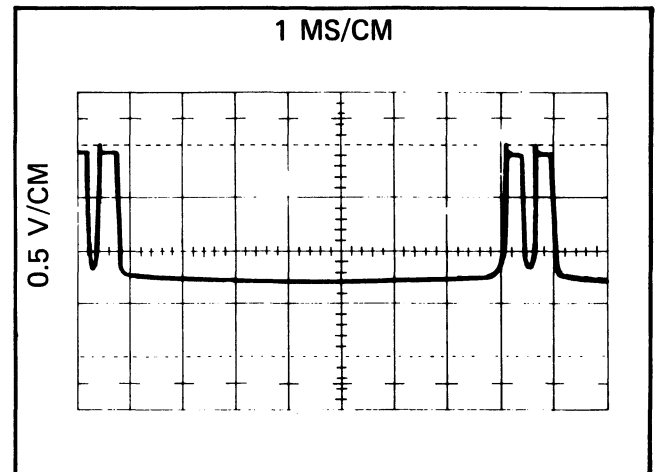

Figure 4-6. PRE-REGULATOR Q1, WAVEFORM ON STDBY/RESET
- e. Set the readout dials to 50.0000 and the POWER switch to STDBY/RESET. The oscilloscope waveform should appear as shown in Figure 4-6.